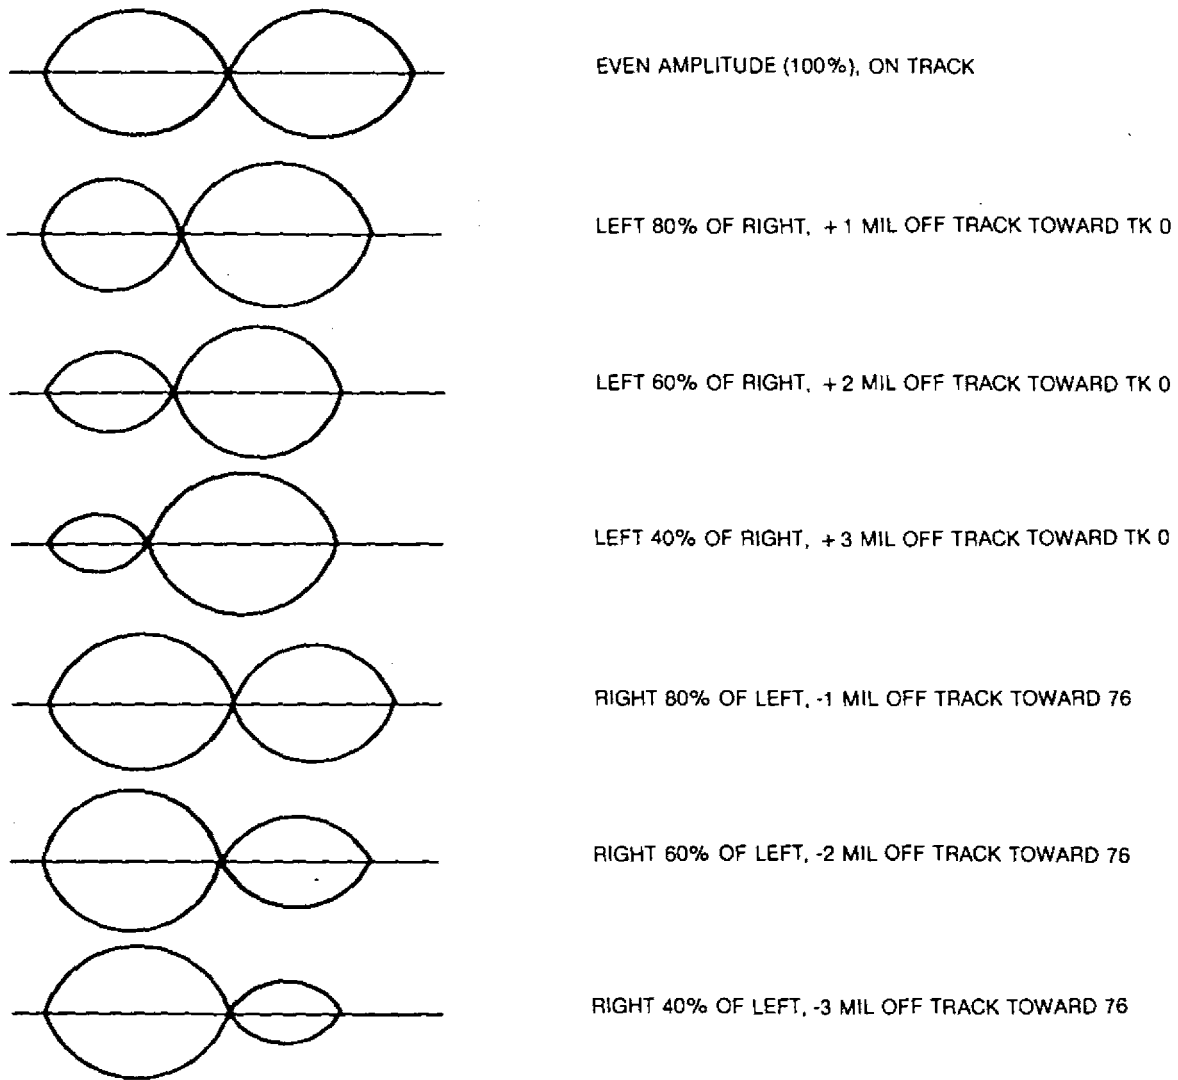

FIGURE 46. HEAD RADIAL ALIGNMENT
- e. The amplitude of the two lobes must be within 70% of each other. If the lobes do not fall within this specification continue on with the procedure (Refer to Figure 46).